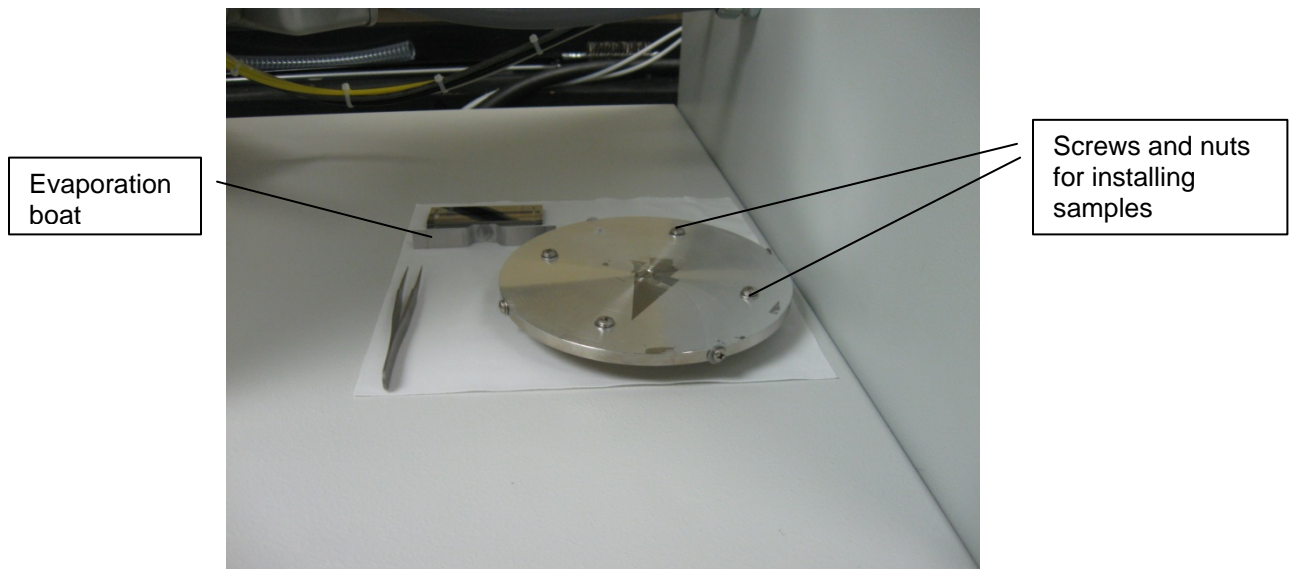

Figure 2: 6" substrate holder
- b) Mount the substrates using screws and clips as shown in Figure 2. To avoid contamination, do not touch the substrates with hands, handle with tweezers.